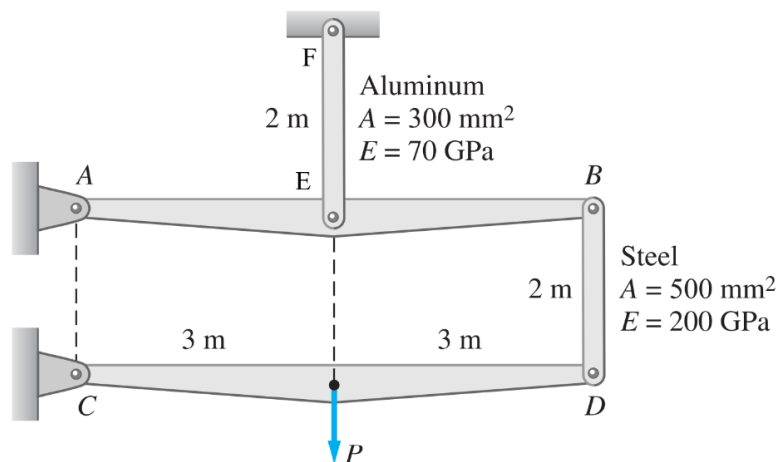

Figure 2 (a)
2. (a) Two rigid bars AB and CD are supported by a pin joint at A and B, and two vertical rods, as shown in Figure 2 (a). The vertical rod EF is made of aluminum ($E = 70 \text{ GPa}$) with the cross-sectional area of 300 mm^2 . The vertical rod BD is made of steel ($E = 200 \text{ GPa}$) with the cross-sectional area of 500 mm^2 . All connections used in this structure are pin joints. Determine the maximum force P that can be applied to the structure if the vertical displacement at point D is limited to 10 mm. Neglect the weights of the members.